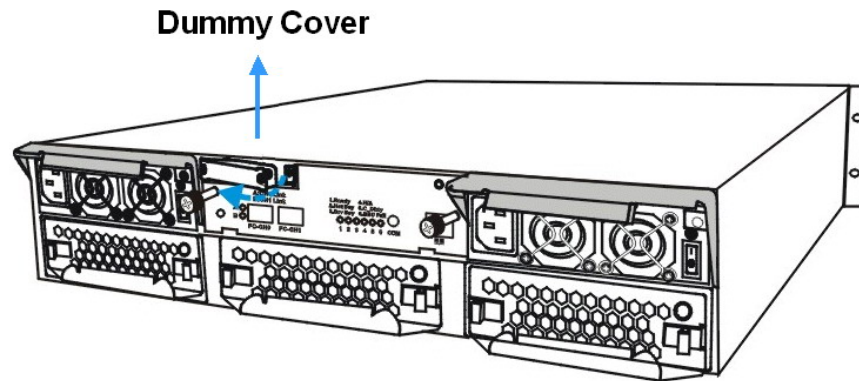

Figure 2-6: Removing the BBU Slot Dummy Plate
- Step 2. Once the retention screws are loosened, wedge a screwdriver between the back of the dummy plate and the interior wall of the subsystem enclosure. Gently lever the dummy plate out of the enclosure. (See **Figure 2-6**)